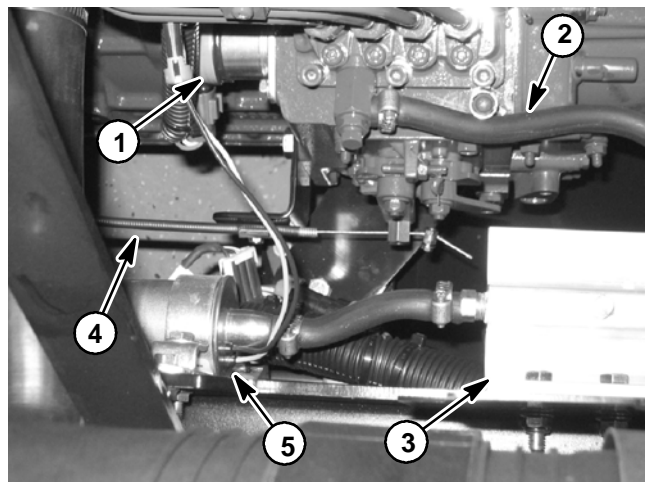

Figure 14
H. Disconnect wire harness connector from fuel stop solenoid (Fig. 14).
8. Clamp fuel supply hose after the fuel/water separator to prevent leakage (Fig. 14). Disconnect fuel supply hose from the fuel injector pump on engine. Position disconnected fuel hose away from engine.
7. Connect fuel supply hose to the fuel injector pump on engine (Fig. 14). Remove clamp from fuel hose that was placed to prevent leakage during engine removal.